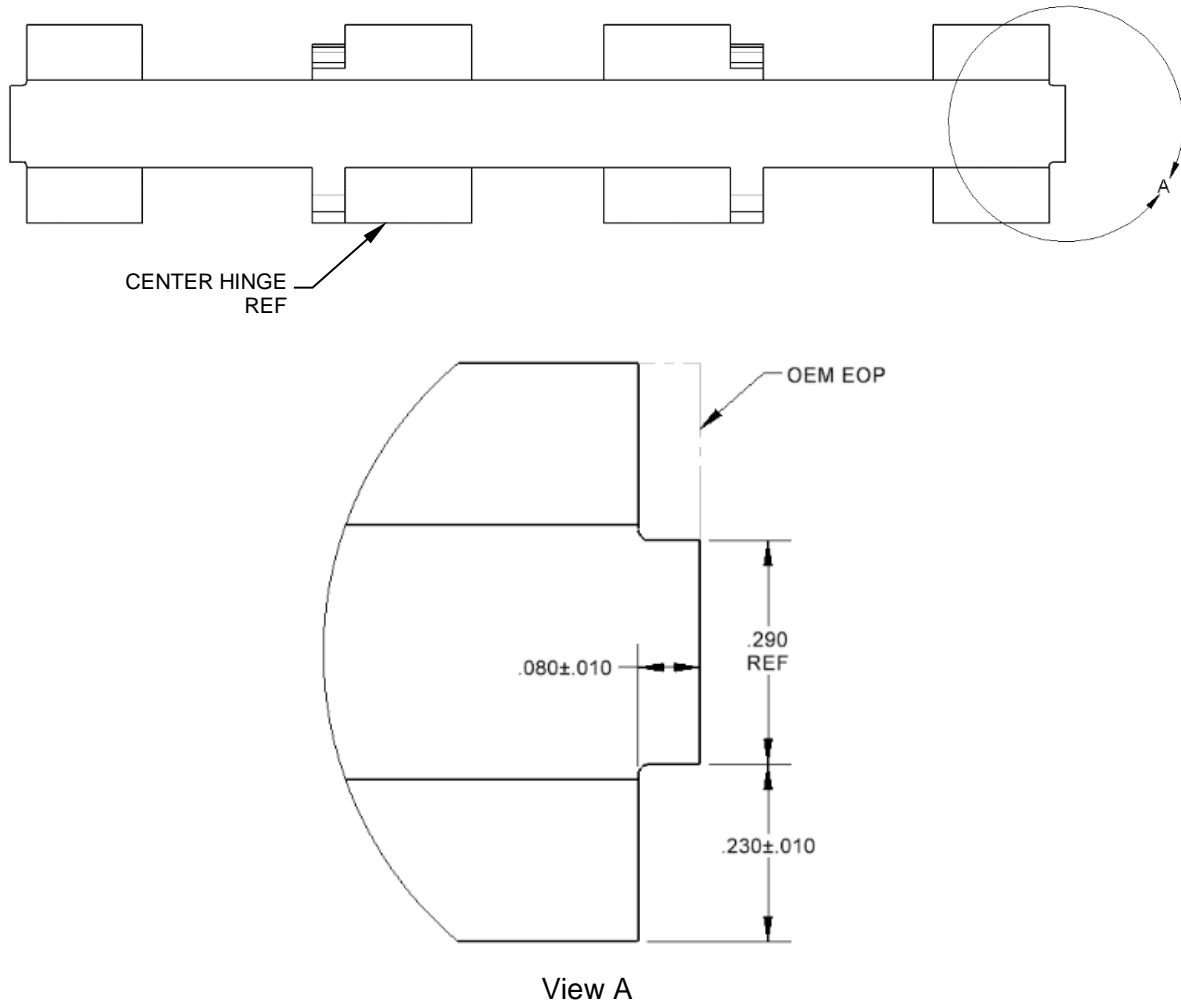

Figure 2
- Using a file, cut clearance notches in the center hinge segment as detailed in Figure 2 and ensure that the notches are de-burred.